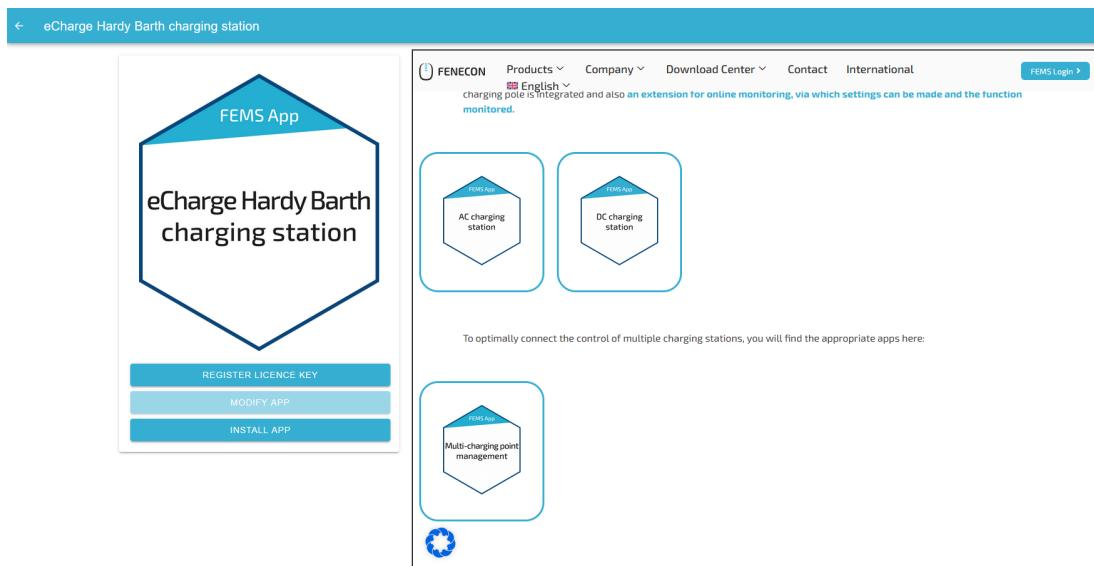

Figure 22. App installation — Variant 2: Step 3
- Figure 22. App installation — Variant 2: Step 3